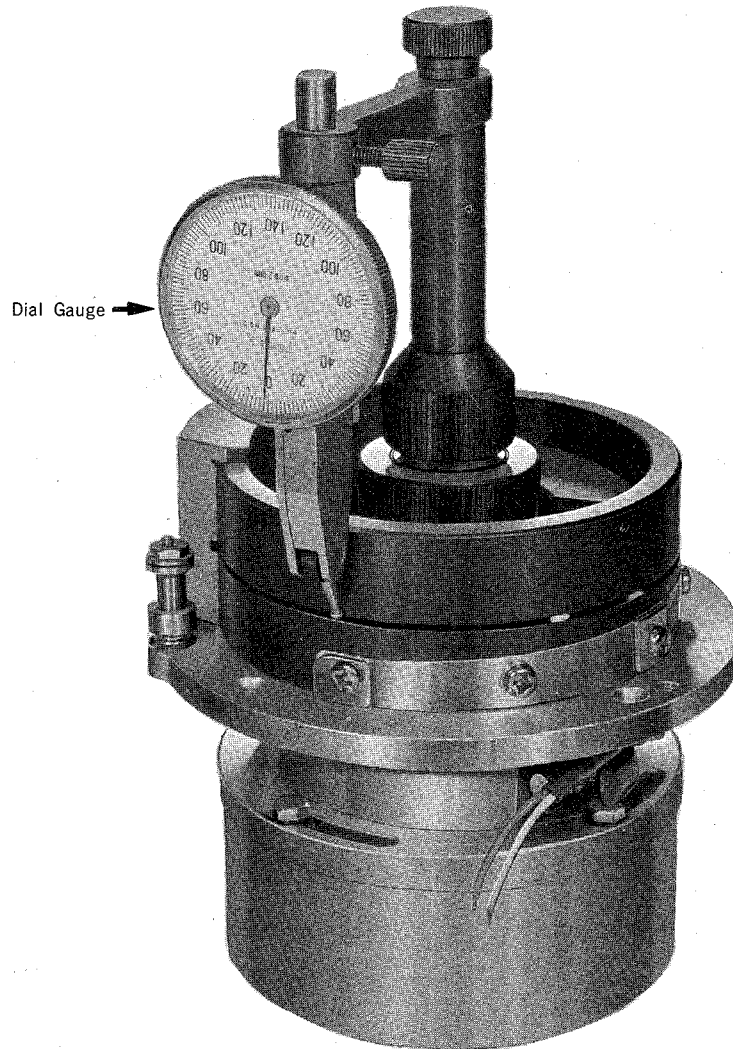

Fig. 13 Upper Drum Protrusion
- (a) After completion of head tip height adjustment, fit Dial Gauge (0.002 mm scale) to motor shaft in the upper drum and check the protrusion of the upper drum (Refer to Fig. 13).